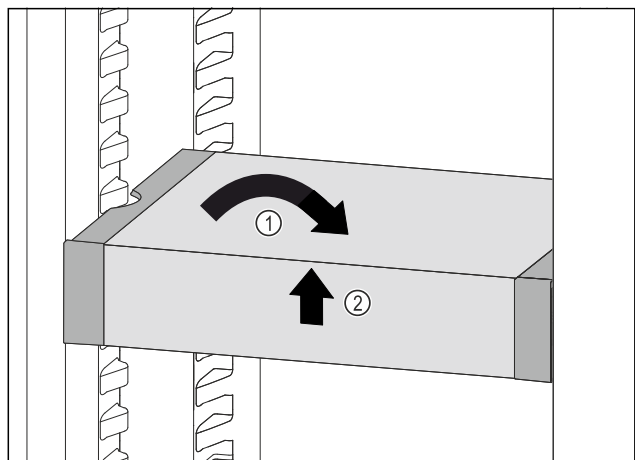

Fig. 108
- ▶ Set VarioSafe straight. Fig. 108 (1)
- ▶ Lift VarioSafe at the front. Fig. 108 (2)